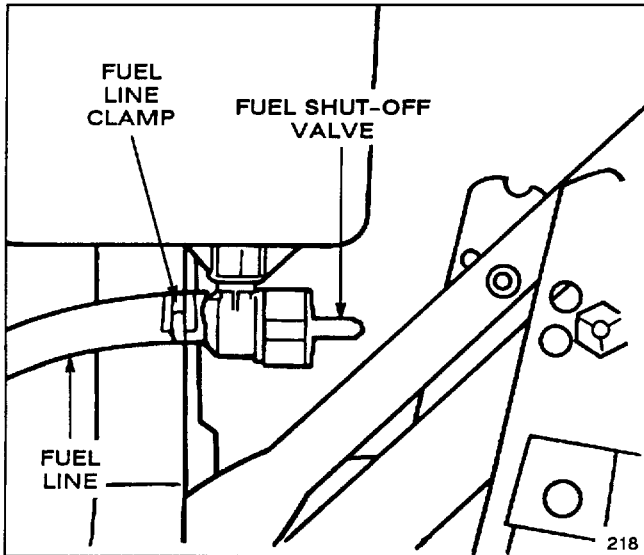

Figure 3
- Slide end of fuel line onto fuel shut-off valve fitting. Secure in place with fuel line clamp (Fig. 3).